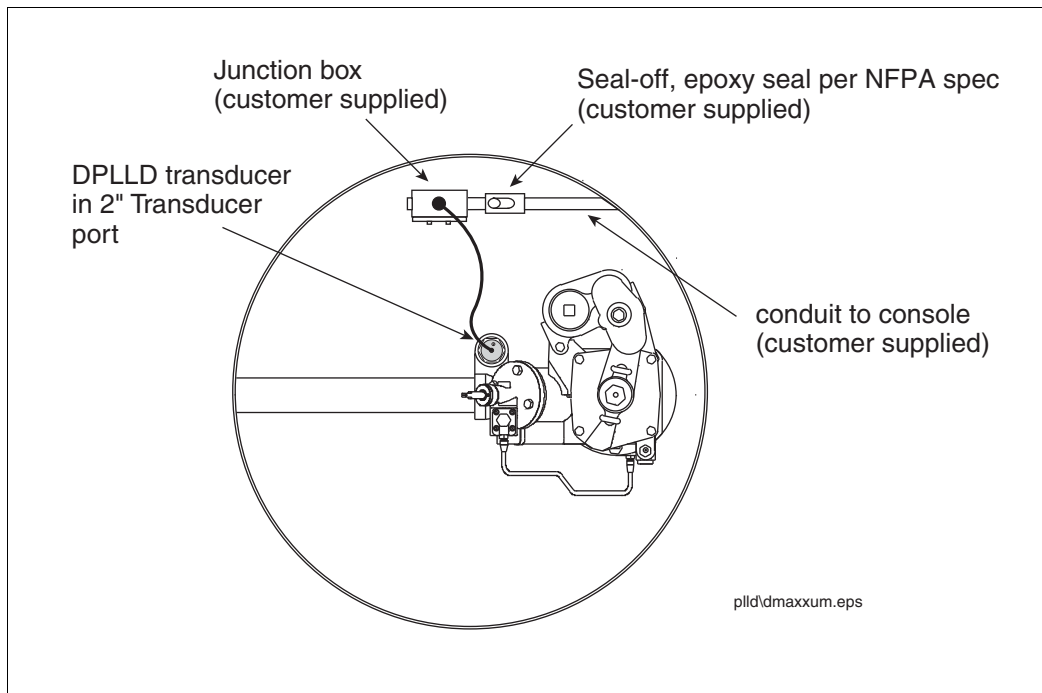

Figure 10. Example DPLLD installation in a Red Jacket Maxxum Big-Flo
3. Remove the cap from the 2-inch Transducer port next to the 3-inch discharge port. Thread the DPLLD transducer into the transducer port (see Figure 10).